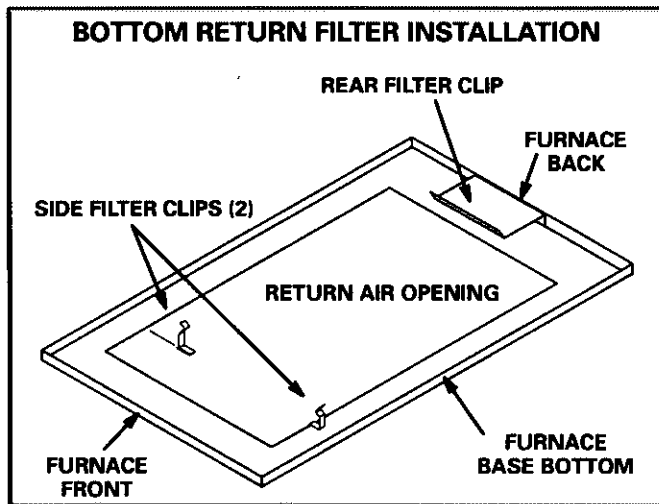

FIGURE 9
- 2- Install filter clips, provided with unit, by slipping folded section of clip on edge of bottom opening. See figure 9.